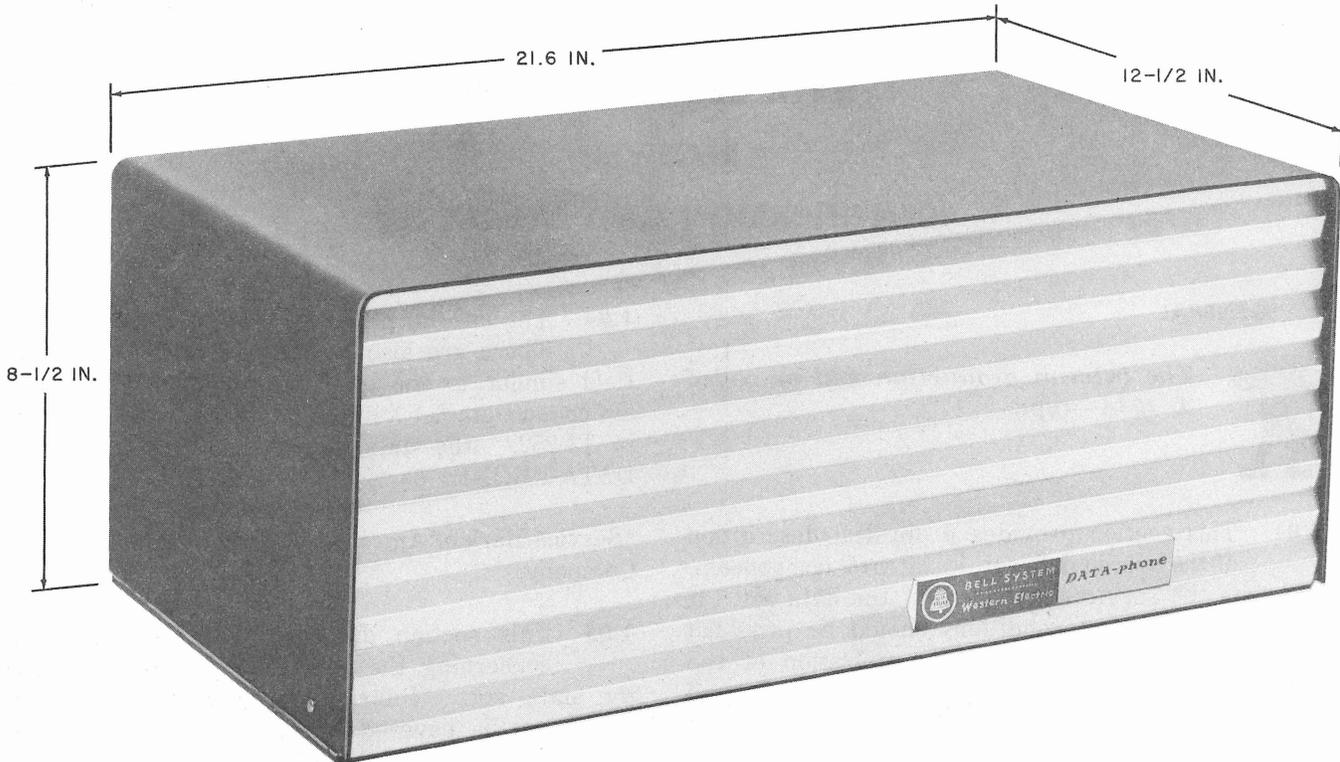
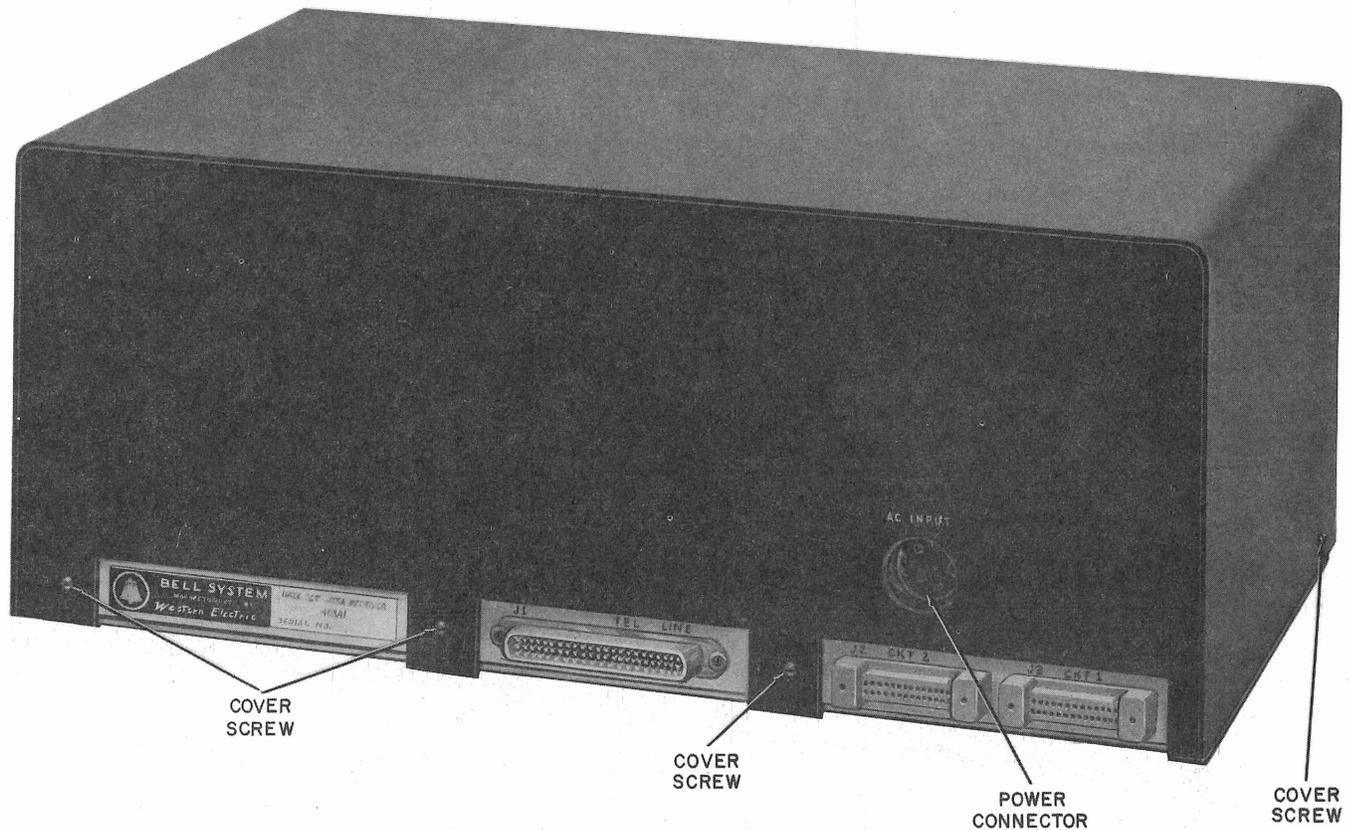

Fig. 1—Data Set 403A-Type, Front View
Fig. 4—Data Set 403A-Type Rear View
1.03 Data Set 403A-type (Fig. 1) can be one or two receivers within one housing. The data set may be provided with or without 5A1 Data Unit which provides a ring attendant function. The coding of the data set is dependent upon the integral components making up the set. Table A lists the possible codings for Data Set 403A-Type.
gray metal case with aluminum front, and its measurements are as shown in Fig. 1. At the rear of the data set are four jacks for connecting the data set (Fig. 4). The TEL LINE jack provides the connection for a 50-conductor-A25D-connector cable which is not provided with the data set or Data Auxiliary Set 804C. The jacks designated J2 CKT1 and J2 CKT2 are the customer interface jacks. The cables which attach to these jacks are customer provided, and interconnect the business machine and the data set. These cables should be fitted with a Cinch or Cannon type DB-19604-432 connector, or equivalent fitted with a Cinch DB-51266-1 hood assembly. The circular jack is the power jack. Power cord, KS-14533 List 16, is a 3-conductor cord, 10 feet long, with a U-type grounding plug, and is provided with the data set.
- (1) Remove three screws at the lower rear of data set and one screw along each side (Fig. 4).
- (2) Lift the data set cover from the base and faceplate.
- (1) Position data set cover over base and secure with five screws, three at the rear, and one along each side (Fig. 4).